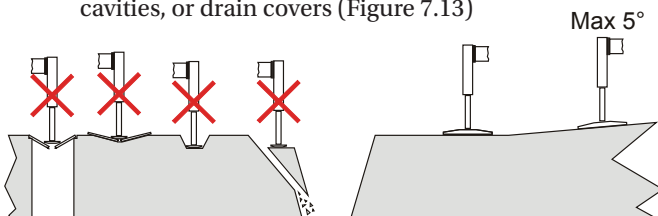

Figure 7.13: Avoid underground hazards when setting up stabilizers
- Do not set stabilizers over underground hazards, cavities, or drain covers (Figure 7.13)